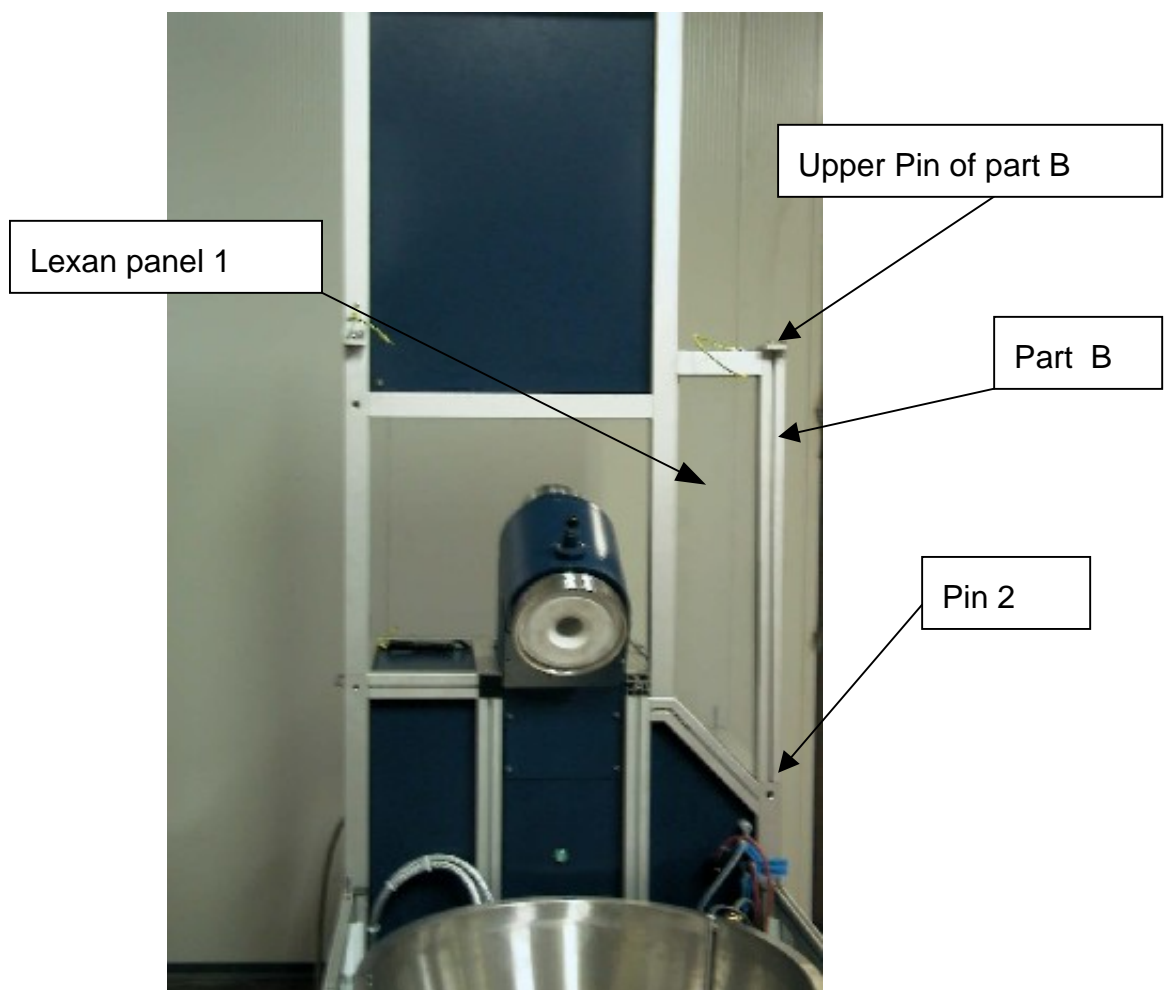

*Figure 3.*
*(Refer to figure 3 at the bottom of this paragraph)*